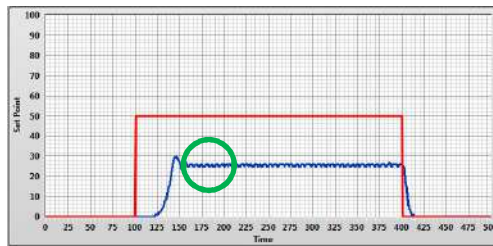

Fig. 15 – Oscillating System
- 4) Increase the $K_p = K_{osc}$ gain until the system starts oscillating. In fig. 15 the red line is the reference and the blue line is the transducer voltage value.